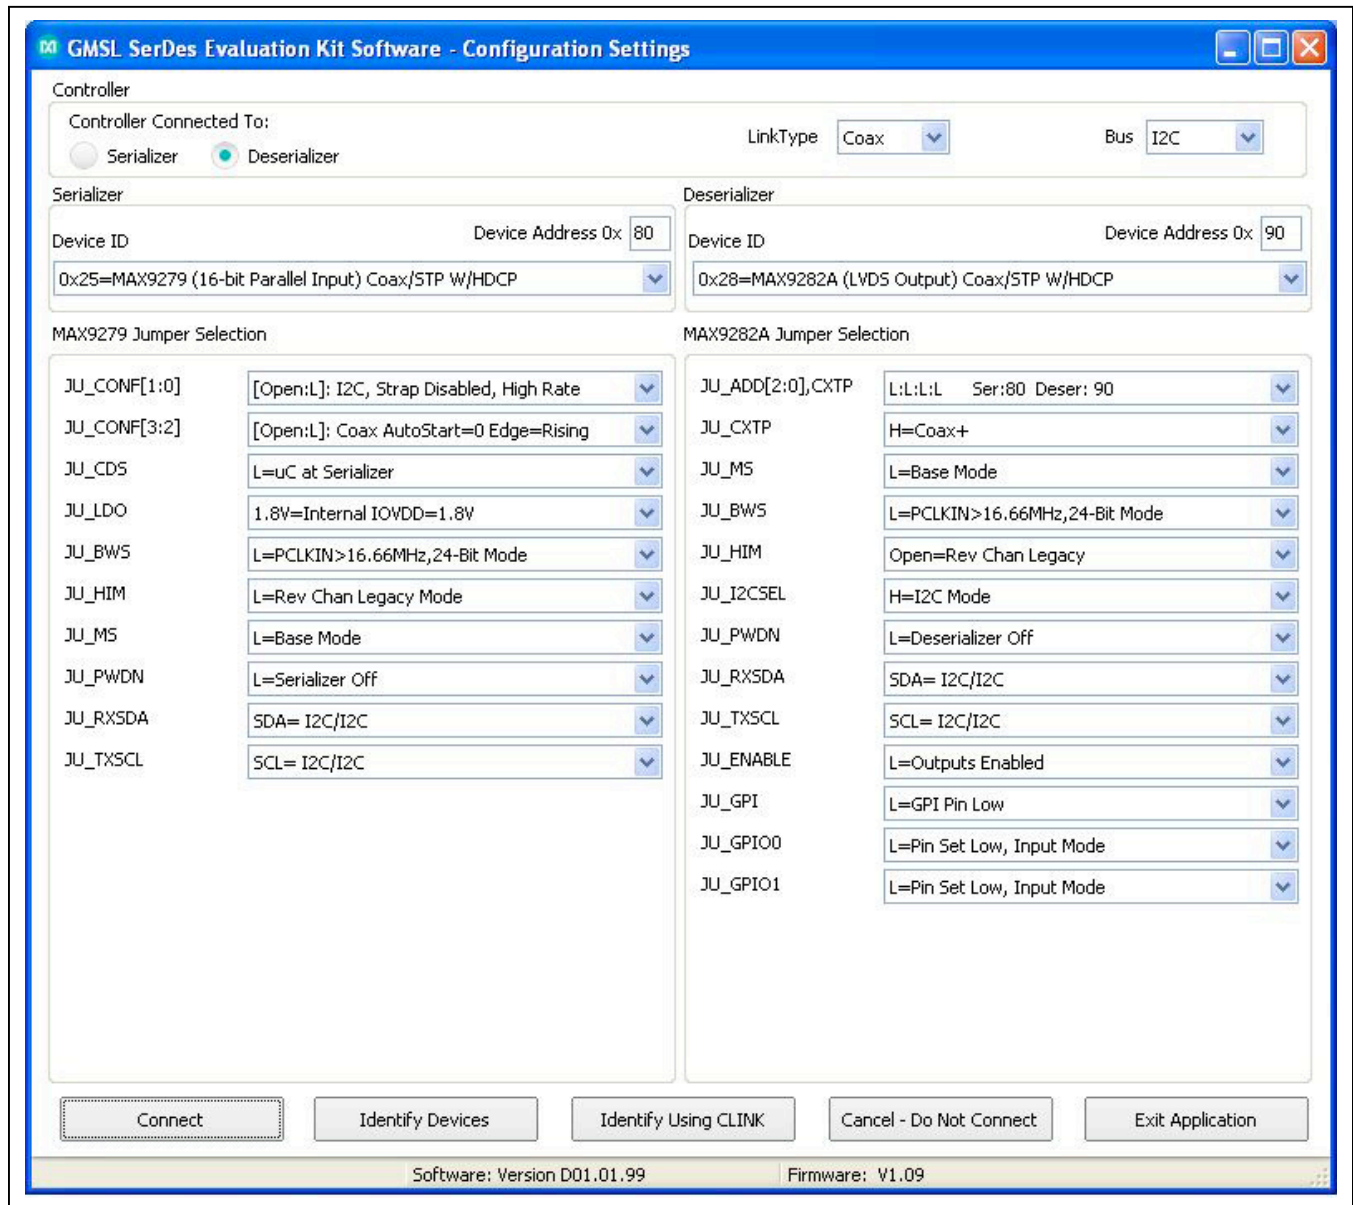

Figure 2. MAXSerDesEV-D Evaluation Kit Software (Configuration Settings Window)
- 9) The **Configuration Settings** window opens (Figure 2) and the GUI automatically searches for any active listener in both I2C and UART mode and identifies the valid GMSL products. Once any valid device is identified, the corresponding configuration jumpers are displayed to help users configure the SerDes.
The **Configuration Settings** window (Figure 2) is the first window that opens after program launch. It allows the user to specify evaluation board setup and mode of operation.